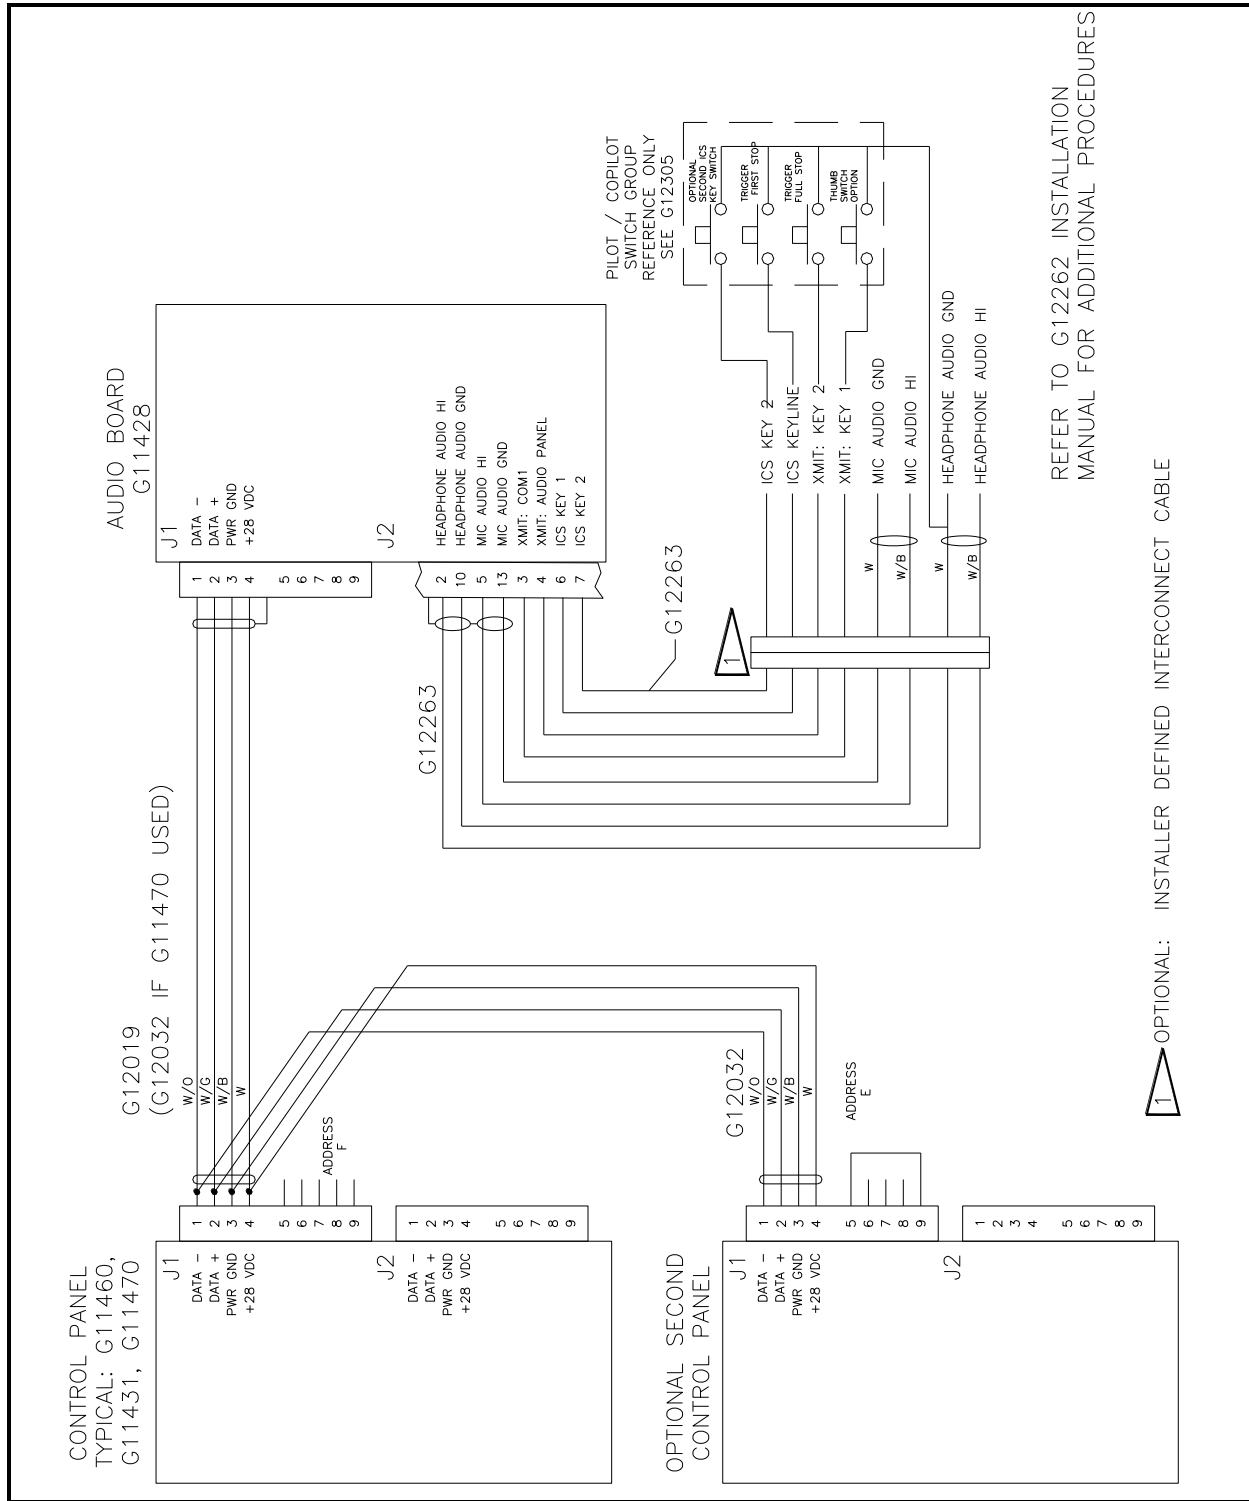
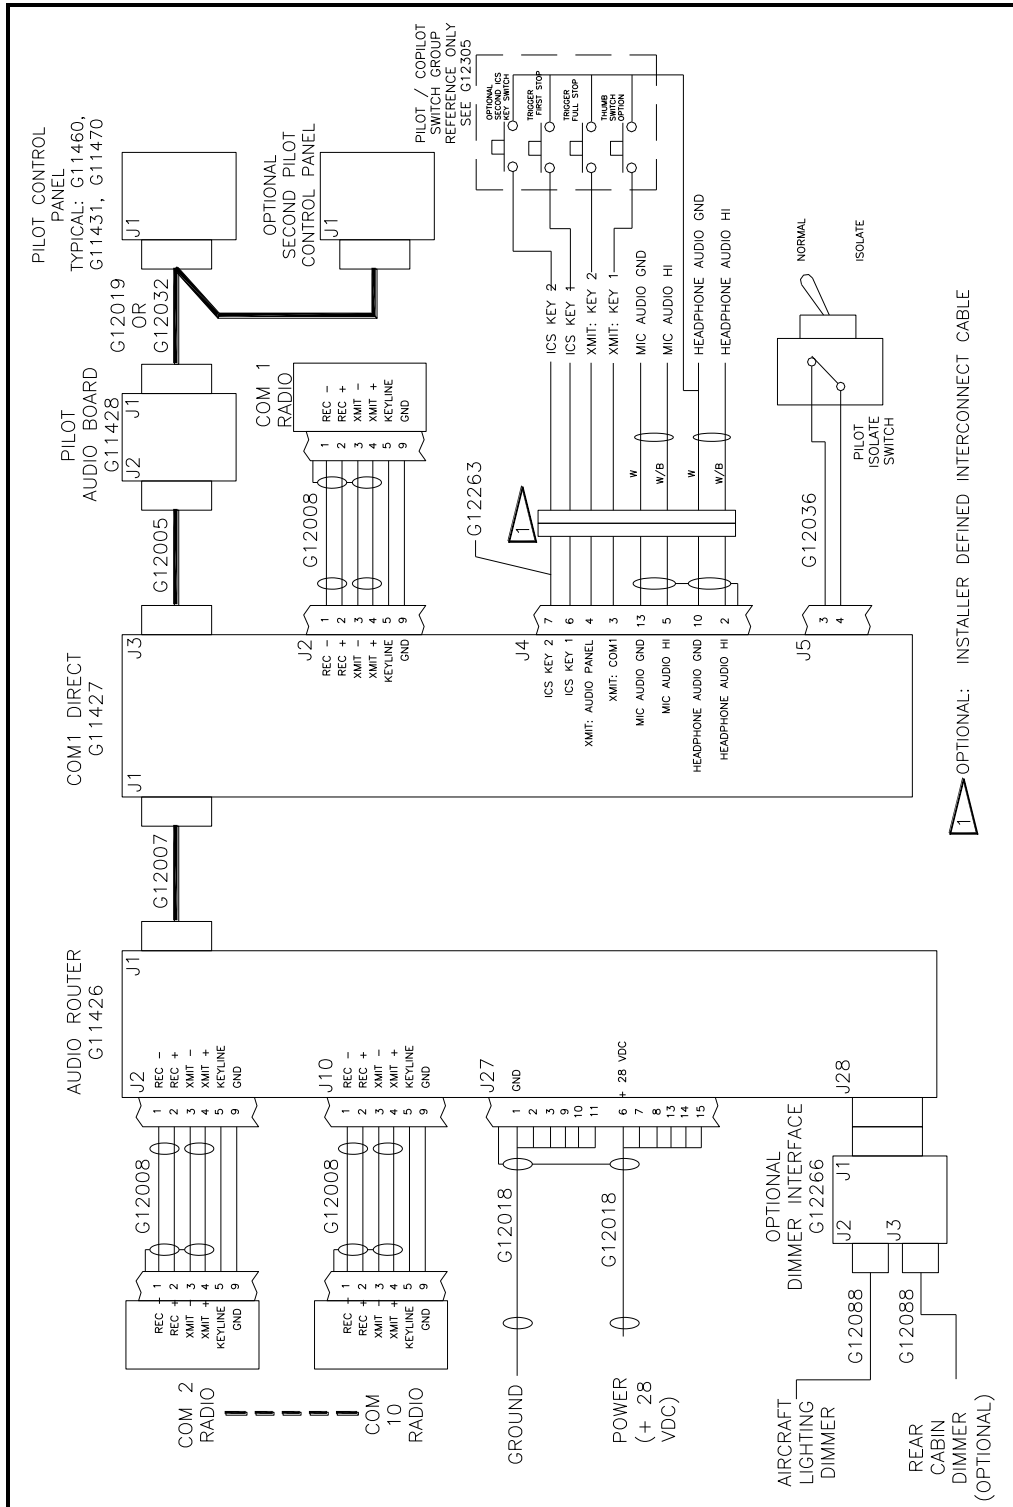

Figure 23: Audio System Pilot/CoPilot
Figure 25: Audio System Router/Com1 Direct Hookup
- a.** Refer to Figure 23 thru Figure 25 for the Cable Part Numbers associated with a general Analog Audio System installation.